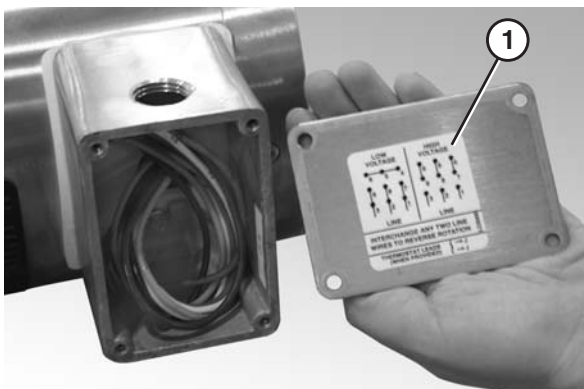

Figure 38
2. Refer to the wiring diagram (**Figure 38, item 1**) on the inside of the junction box cover.